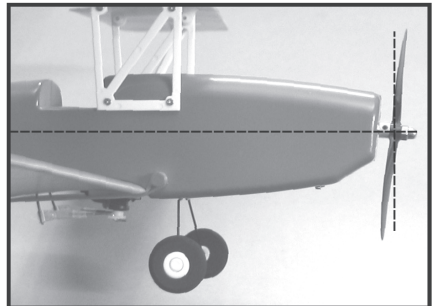

Figure 19
The landing gear wire (1) is inserted into the prepared landing gear shaft (2) located right behind the flight battery shaft on the bottom side of the fuselage (also see figure 19).
If you align the model horizontally and then look at it from the side, you will quickly notice that the rotor is not exactly vertical to the longitudinal fuselage axle (see figure 19, interrupted line), but slightly slanted.